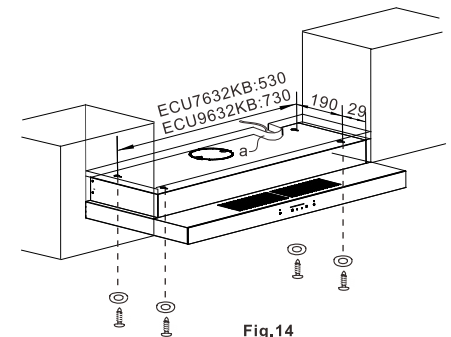

Fig.14
- ① Before fixing the hood under cabinet, check the position of the power outlet and consider where the power cable will run, since a hole (a) might have to be made in the cabinet to accommodate it.
- ② Drill 4 holes and insert the 4 mounting screws however without screwing them completely in the wall unit, respecting the distance indicated in Fig.14.
- ③ Push the hood up against the cabinet and screw the 4 screws completely operating from inside the hood.